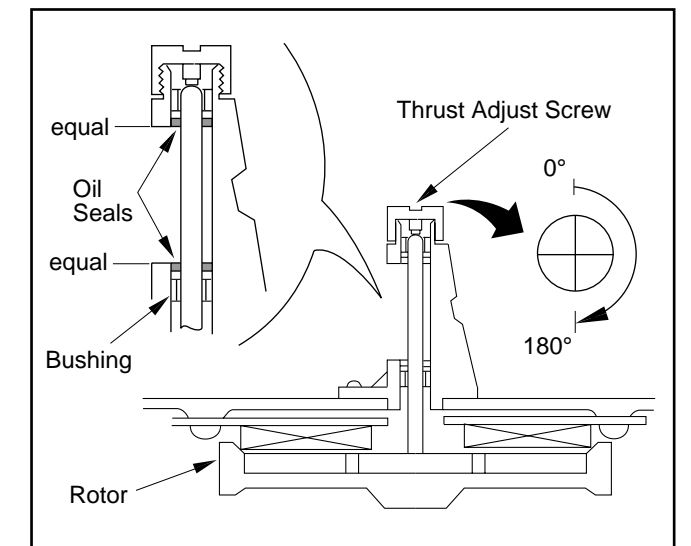

Fig. M21
9. Re-install the Capstan Motor Drive C.B.A. by tightening 2 Screws (E). Then carefully solder P2502 and re-install the Motor Block Ass'y.
12. Upon completion of the above procedure, confirm that the Oil Seals are positioned as shown in Fig. M21 and make sure that the oil seal does not contact the Pressure Roller or P5 Arm Unit. Then, wipe off the Capstan Shaft to remove oil, grease, and dust.